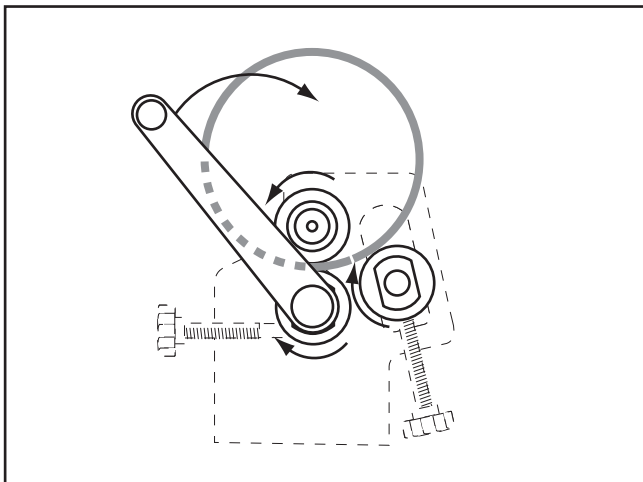

Figure 28. Finishing the cylinder.
- Continue to process the workpiece until the cylinder is formed, as shown in **Figure 28**.